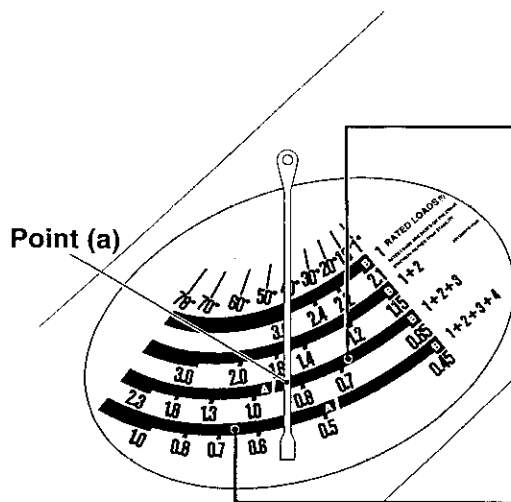

Fig. 1 Load indicator
- ① Lower the engine speed.
- ② Adjust engine speed so that the needle points at 0 (zero) on the load meter scale while the hook is lifting up with no-load
- ③ As an example, let us take the case where a cargo is hoisted using 4-rope hooking system and extended boom configuration of $1+2+3$ as shown in the figures; The load meter shows that the crane can lift up the load up to [0.85t] on the scale band [B] at the point (a) on the load indicator as shown in Fig. 1.
- ④ Read the load meter for the point (b) on the scale band [B] while a cargo hooked is being lifted up to approximately 30cm. The meter shows [0.6t] as the actual weight of the cargo. This means that the crane can be operated with a margin of [0.25t] in this example.